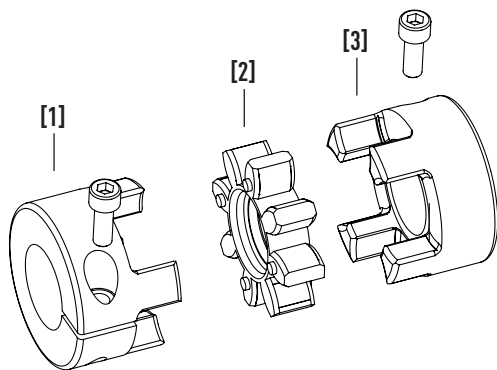

Fig. 6.44 Coupling assembly variant 1: clamping hubs with one clamping screw
- Variant 1 with one clamping screw, see Fig. 6.44